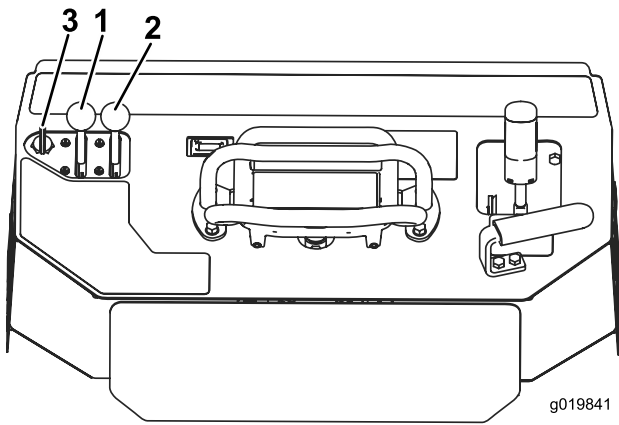

Figure 19
1. Move the throttle lever midway between Slow and Fast positions (Figure 19).
2. Move the choke lever to the On position (Figure 19).
3. Turn the key to the On position (Figure 19). When the engine starts, release the key.
4. Gradually move the choke lever to the Off position (Figure 19). If the engine stalls or hesitates, engage the choke again until the engine warms up.
5. Move the throttle lever to the desired setting (Figure 19).
2. Move the throttle lever to the Slow position (Figure 19).
3. Turn the key off (Figure 19).